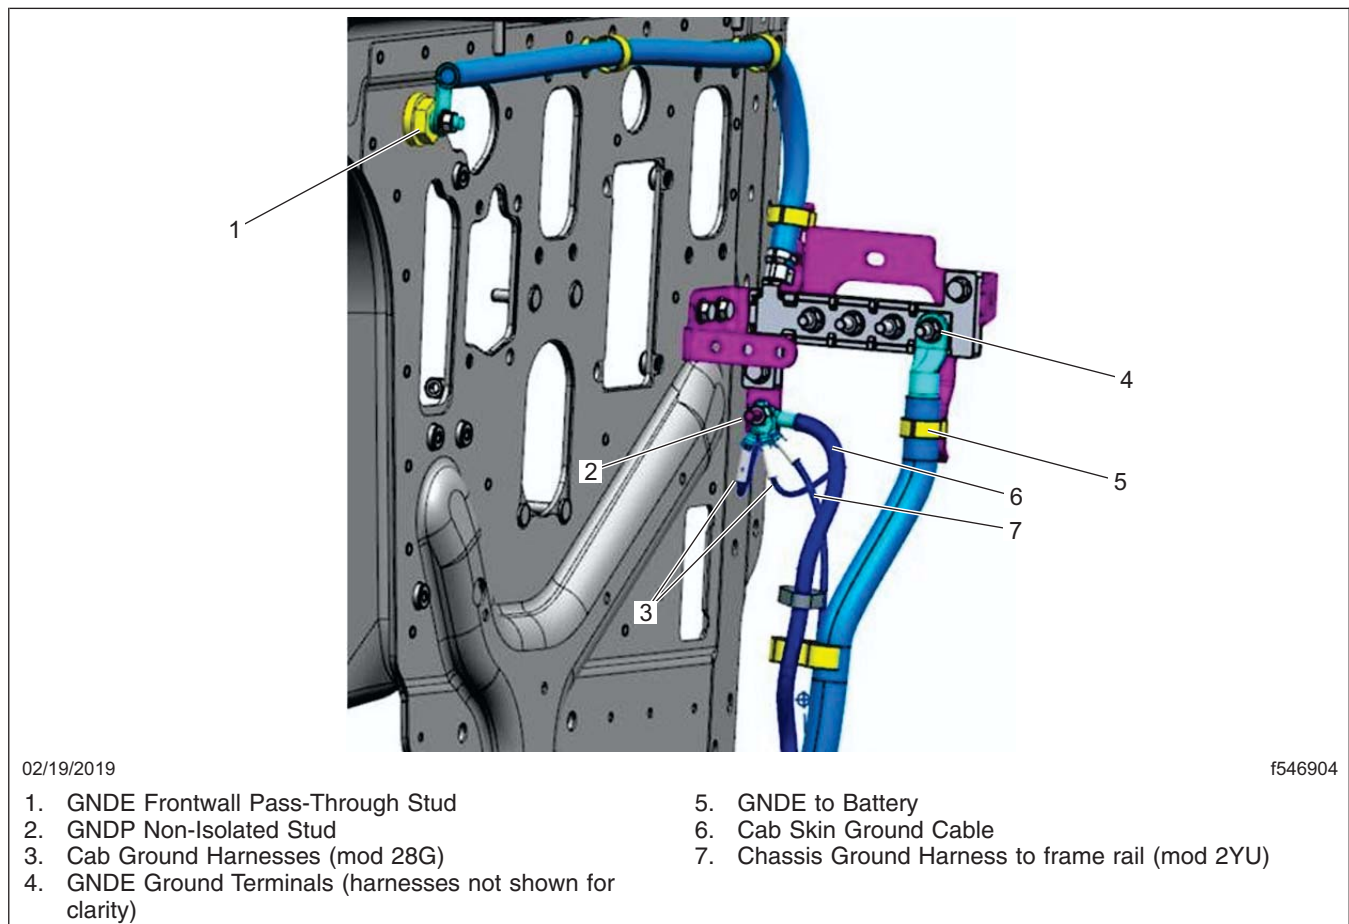

Fig. 3, MGJB and Frontwall Grounds
- Inspect the GNDP cab skin stud. See **Fig. 3** and **Fig. 4**. The left cab splash shield will need to be removed for this inspection. Verify that the GNDP skin stud on the underside of the cab is clean and torqued correctly. Do not over torque this stud. If the stud is stripped or spinning, in its mount, contact the district service manager for further instructions and include pictures. This skin stud is a critical grounding point for the cab. Disassemble and inspect the stud for overspray on the flat surfaces. Torque the stud 14 lbf-ft (19N·m). Repaint the connection as necessary.